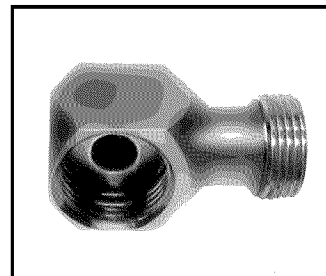

Fig. 08
3. Attach the elbow to the top of the keg coupler, making sure to use a black washer (Fig. 08).